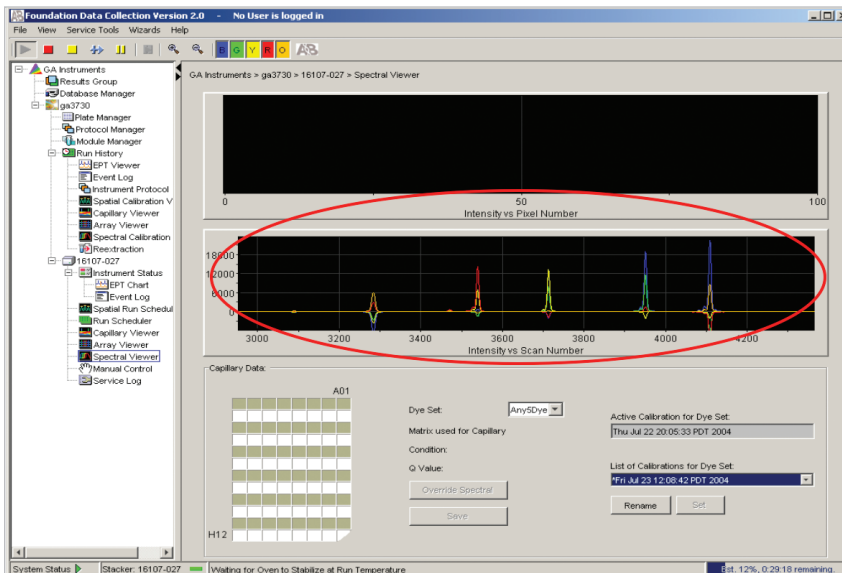

Figure 7. Failed spectral, showing pull-up and pull down.
5. Prepare a spectral standard plate by following the protocol provided with the Matrix Standard Set DS-02 Kit (P/N 4322849), which was originally formulated for use on the ABI PRISM[®] 3700 DNA Analyzer. If the matrix-standard peaks are too strong (i.e., if pull-up or pull-down peaks are visible, (Figure 7), dilute the standards 2:1 with Hi-Di[™] Formamide and repeat the spectral run. When the spectral calibration has been completed (> 90% of passing caps), the instrument is ready for SNaPshot kit labeled samples.